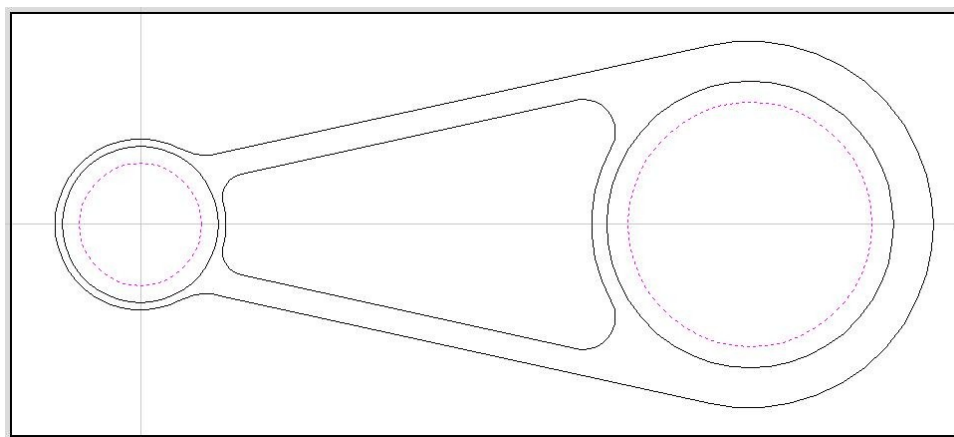

Figure 18. Bore Vectors Selected.
- Click the inner two circle vectors (as shown in Figure 18.)